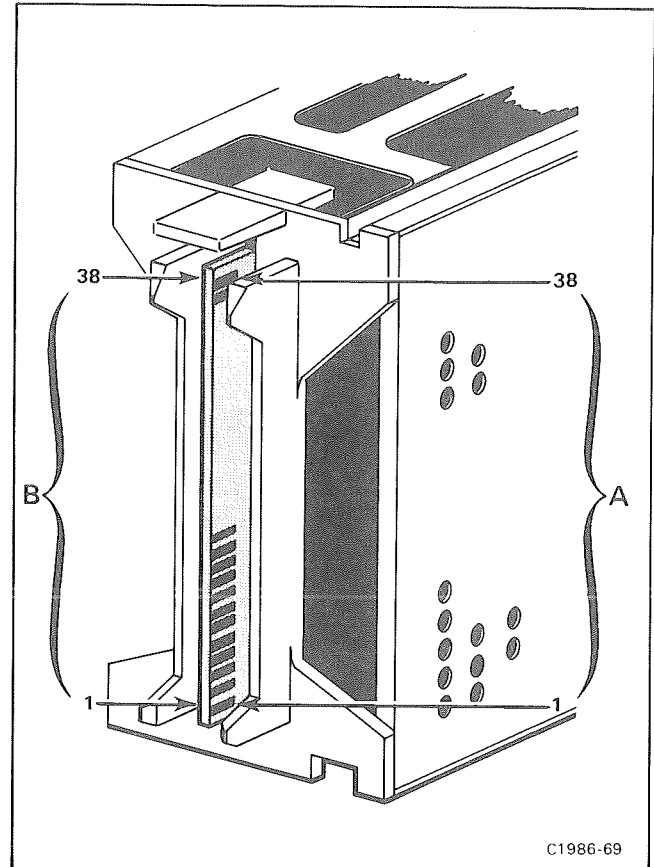

Figure 4-4. Location of pin numbers on interface connector.
**Interface Connector Pin Locations.** The Main Amplifier circuit board couples the plug-in unit to the associated main-frame (oscilloscope). Figure 4-4 identifies the pins on the interface connector as shown in Section 8, Diagrams and Circuit Board Illustrations.